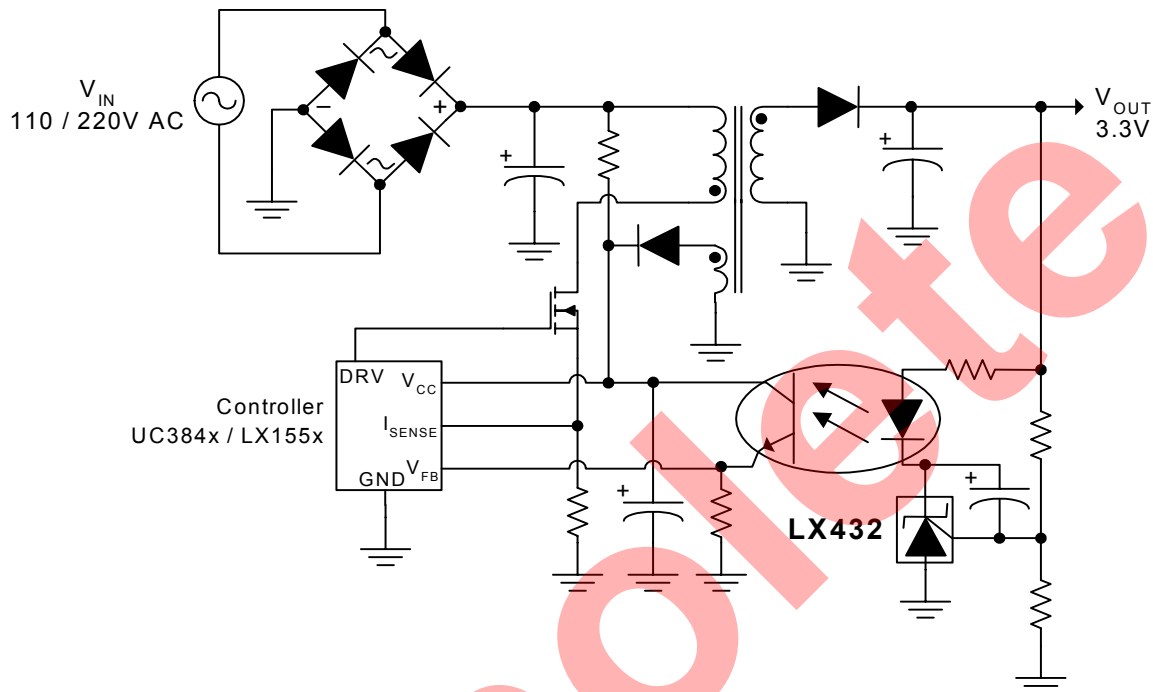

Figure 12 – LX432 In A Power Supply Isolated Feedback Application
Low voltage operation enables the LX432 to be used in the feedback loop of isolated low voltage power supplies. The minimum output voltage is determined by the LX432 output voltage plus the forward voltage drop of the opto-coupler LED (typically 1.24 + 1.4 = 2.64V minimum). See figure 12.
**PARAMETER MEASUREMENT INFORMATION****Figure 11** – Test Circuit For $V_{KA} = V_{REF}$ **Figure 12** – Test Circuit For $V_{KA} > V_{REF}$